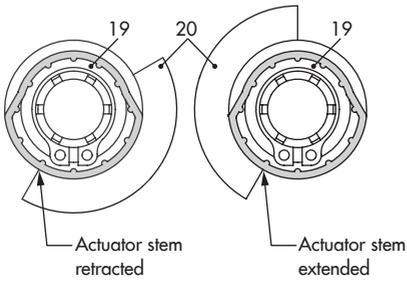

Fig. 13: Alignment of contact cam and cam holder
3. Unscrew fastening screws. Slide the actuator board (12) from its guiding to the right. Slightly lift the board and continue pushing it further towards the cable entry.
4. Clip the spindle gear (2) onto the sleeve (13). Make sure the side latch is properly engaged in the groove of the sleeve.
5. Slide the intermediate gear (1) onto the spindle 1 (11.1), mount the serrated ring (3) and push it down as far as it will go.
6. Slide the spacer (8) onto the spindle (11.2).
7. Place the tension spring (4) on to the corresponding spindle, ensuring that the long wire of the tension spring rests on the spacer (8) and on the intermediate gear (1).
8. Place both ready-assembled contact cams (19) with the cog first onto the cam holder (20).
9. Slide adjustment gears (18) onto their spindles and fasten with one screw each. Check whether the adjustment gears can be turned easily. If not, slightly loosen its screw again.
10. Turn both contact cams (19) on the cam holder (20) as illustrated in Fig. 13 corresponding with the position of the actuator stem.